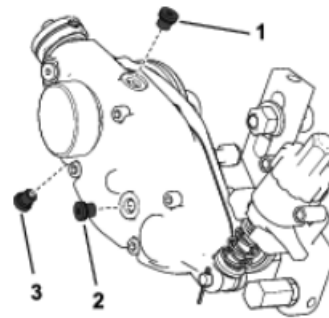

Figure 3
2. Remove the drain plug on the bottom of the housing. (Figure 3)
3. Remove the fill plug on the side of the housing and loosen the air vent plug on the top so air can pass through. (Figure 3)
12. Install the fill plug and tighten the air-vent plug. (Figure 3)